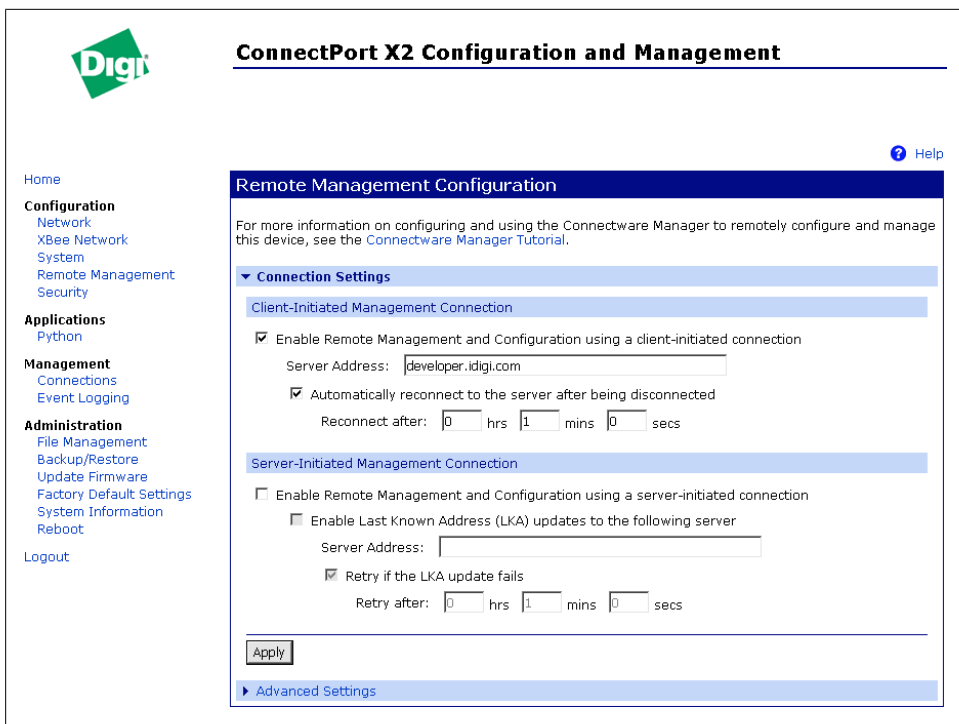

Figure 7-7. The Remote Management Configuration screen on the ConnectPort
1. Click on Remote Management in the web interface to show the configuration screen. Check the box for "Enable Remote Management and Configuration using a client-initiated connection," then enter **developer.idigi.com** for the Server Address as shown in Figure 7-7. This is where you can link to a central server and command your robot army of sensor networks.